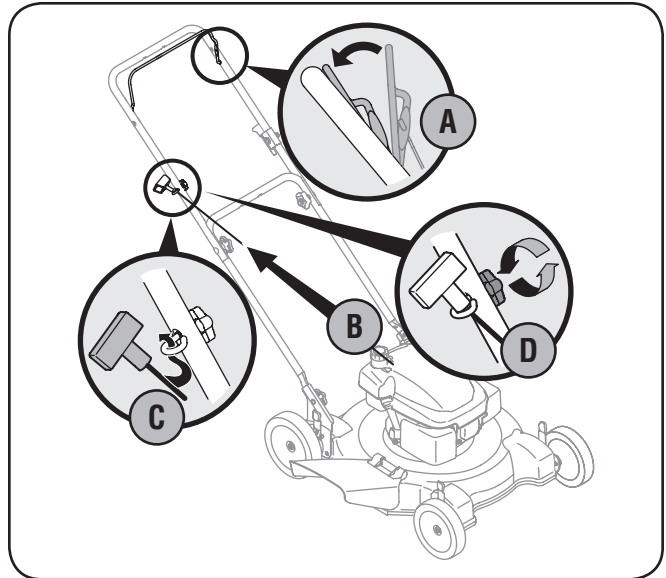

Figure 3-4
- b. Slowly pull the starter rope out of the engine. See Fig. 3-4.